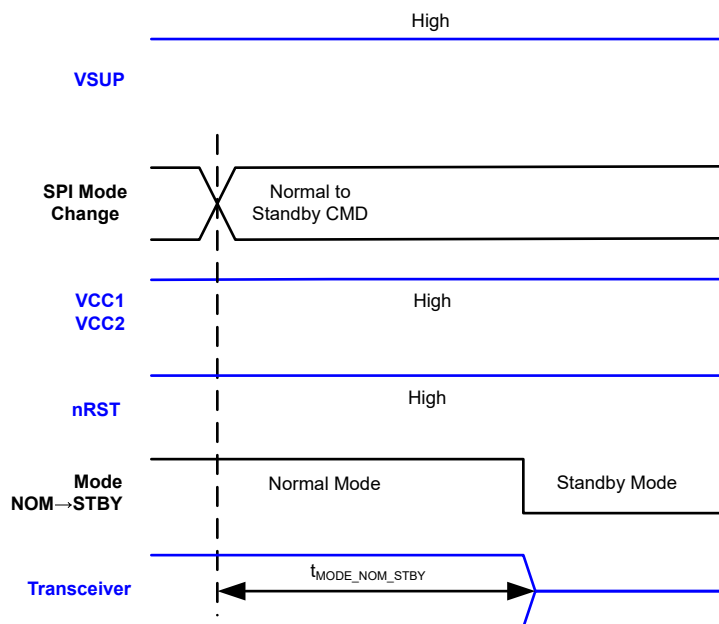

Figure 7-16. Normal to Standby Timing
- The blue signals are input or output of the TCAN245x-Q1 and the black signals are internal to the TCAN245x-Q1. This is for the timing diagrams Figure 7-13, Figure 7-14, Figure 7-15, Figure 7-16.